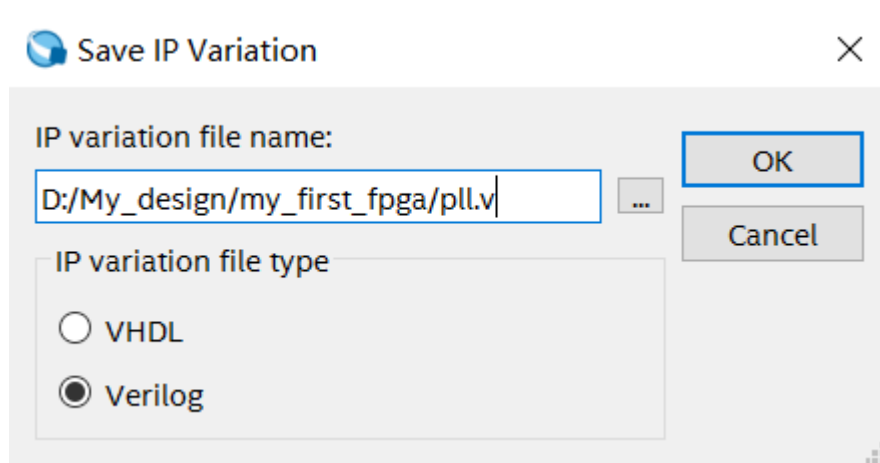

Figure 3-9 Save IP Variation
2. In **IP catalog**, specify the following selections (see **Figure 3-9**):